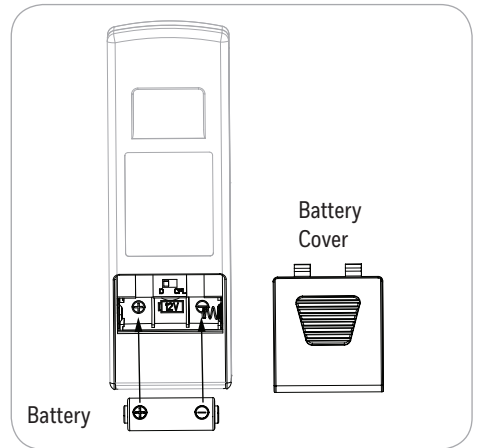

Figure 5.9
9. Remove the battery cover from the back of the remote and insert the 12-volt battery, noting polarity -- positive (+) to positive (+) and negative (-) to negative (-). Replace the battery cover. If battery is installed correctly, the LED indicator on the front of the remote transmitter should illuminate when any button is pushed (Figure 5.9).